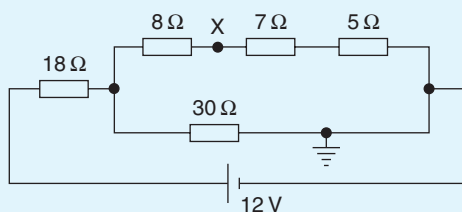

Figure 5.38
- For the circuit shown in Fig. 5.38, calculate (a) the voltage drop across the $7\ \Omega$ resistor, (b) the current through the $30\ \Omega$ resistor, (c) the power developed in the $8\ \Omega$ resistor, (d) the voltage at point X w.r.t. earth, and (e) the absolute voltage at point X.